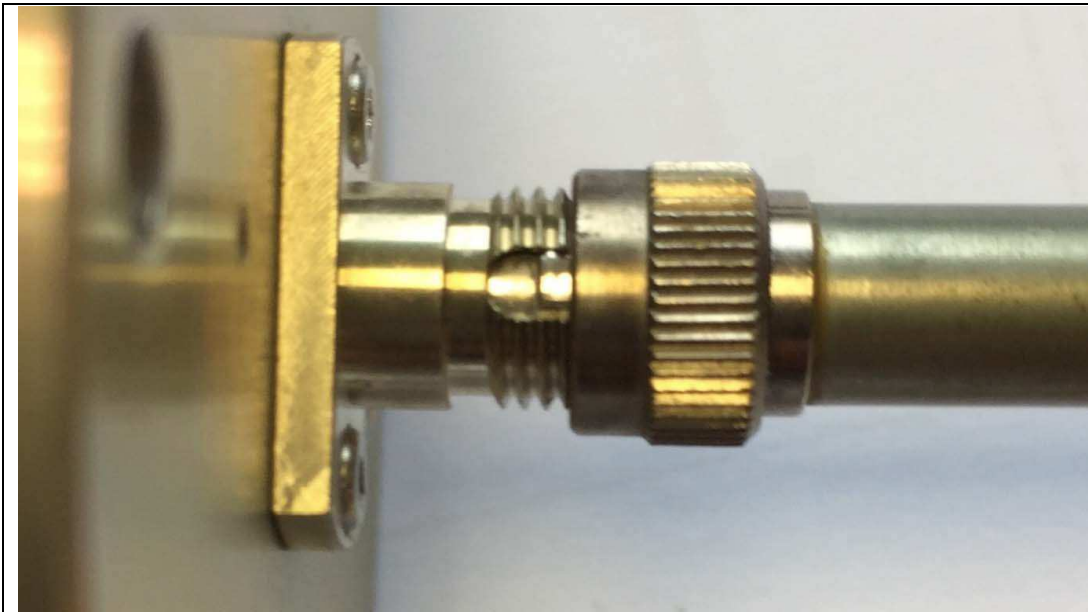

Fig A6-3: To connect the optical fibre, make sure that the pin of the fibre optic connector is correctly positioned in the notch of the FC connector
To connect the optical fibre, make sure that the pin of the optical fibre connector is correctly positioned in the notch of the FC connector (example Figure A6-3).
- Position the fibre lug in the notch of the connector on the instrument and optical head side (Figures A6-3, A6-5, A6-2).